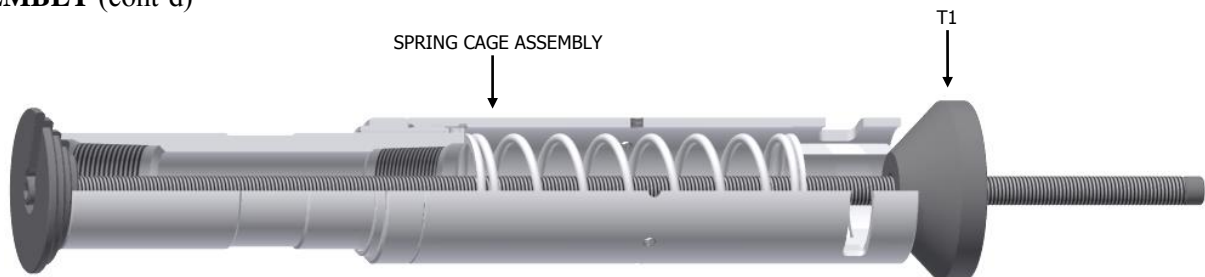

Fig. 4
- L-1.1.3) Compress compression spring (4) with assembly tool (T1) (Fig. 4).
- L-1.1.4) Align threaded holes in spring cage (5) with recessed holes in top sub (1). Screw cap screws (34) into spring cage (5) to centralize spring cage (5).
- L-1.1.5) Screw shear screws (6) into spring cage (5). Tighten until shear screws (6) make contact with top sub (1). Back shear screws (6) out 1/4 turn.